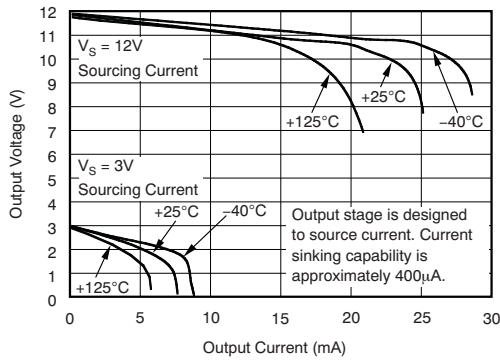

Figure 8. Positive Output Voltage Swing vs Output Current
(2) Total output error includes effects of gain error and V_{OS} .
(3) Linearity is best fit to a straight line.
(4) For details on this region of operation, see Accuracy Variations section in Device Functional Modes.
(5) See Figure 8.
(6) Specified by design.